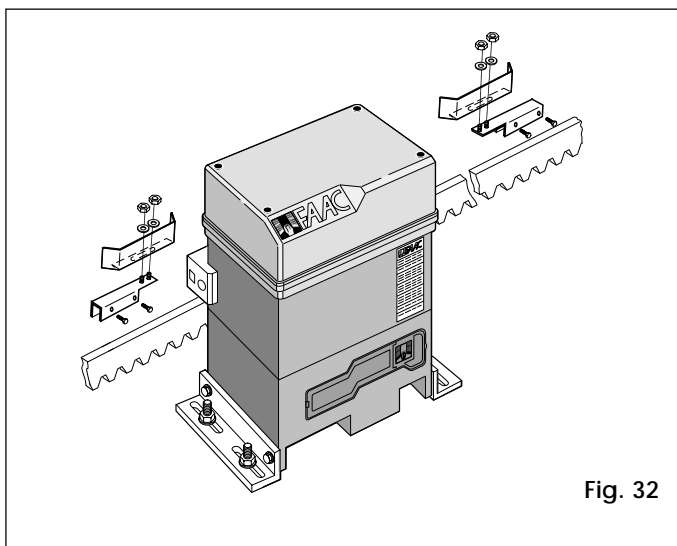

Fig. 32
- 2) Assemble the limit switch, positioning the stop plate centrally relative to the threaded studs of the bracket (Fig.32).